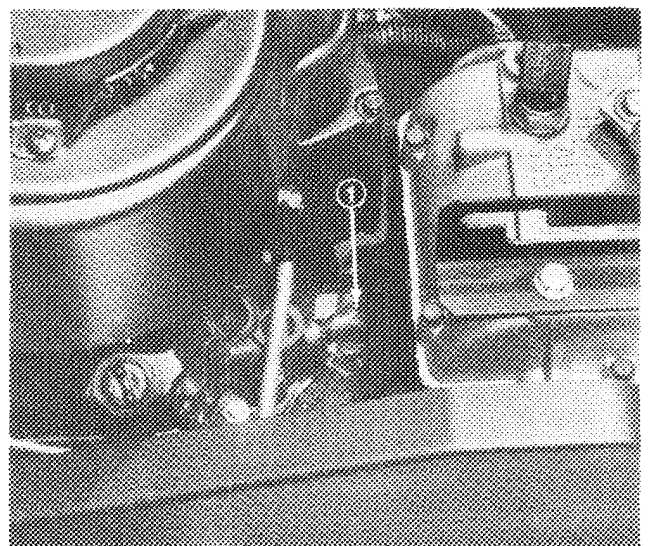

Figure 19
5. Remove drain plug from elbow (Fig. 19). Hold belt to the side so the oil does not contact it.